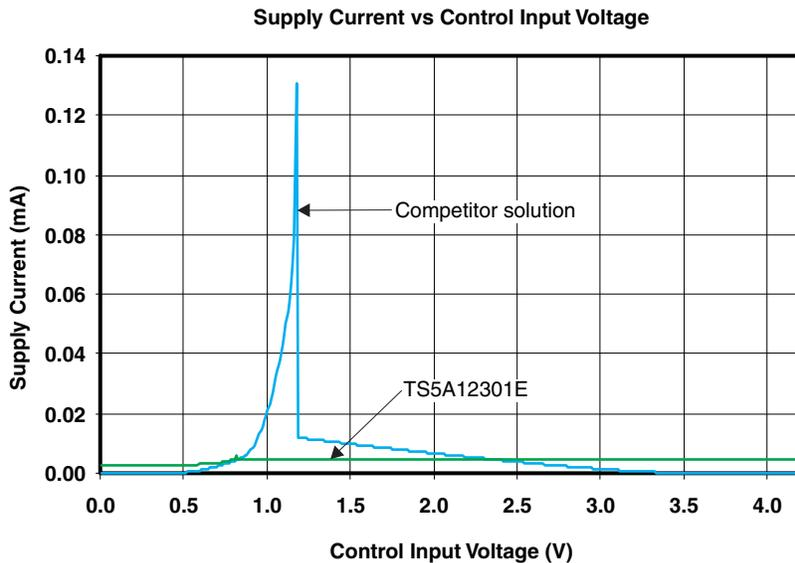

Figure 11. Comparison of Supply Current Between Competitor Solution and TS5A12301E
As shown in Figure 11, the peak current consumption of the TS5A12301E is very low and constant compared with that of the competitor solution. This helps lower current consumption during switching of the control input (IN).